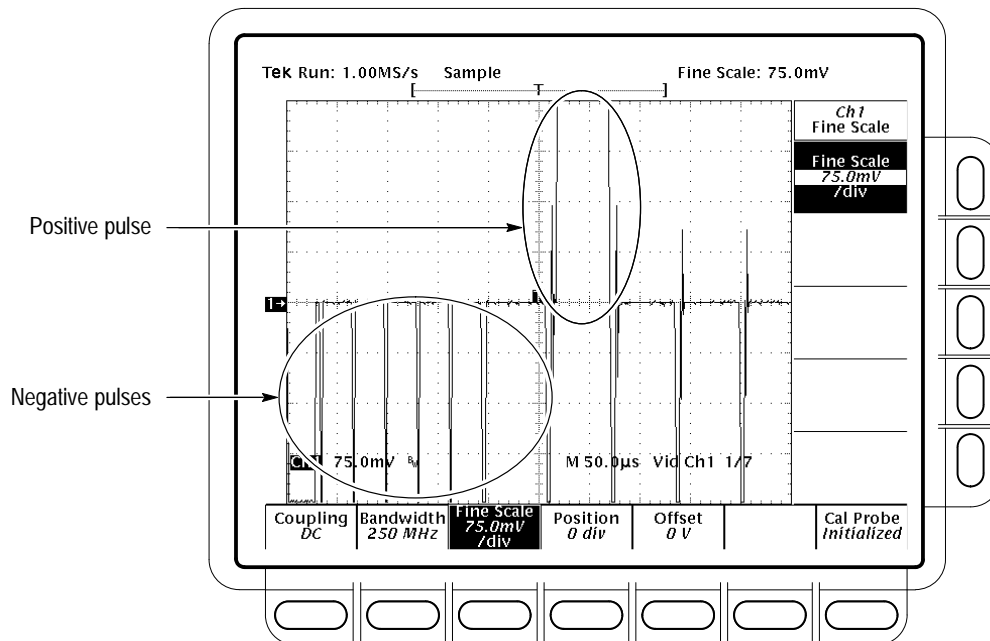

Figure 4-29: Triggered Signal Range Test – 75 mV
- o. CONFIRM that the **TRIG'D** LED stays lighted and that the waveform on screen is stable. That is, it does not move horizontally or vertically. Also, CONFIRM that the waveform on the screen has one positive pulse and a number of negative pulses. See Figure 4-29.